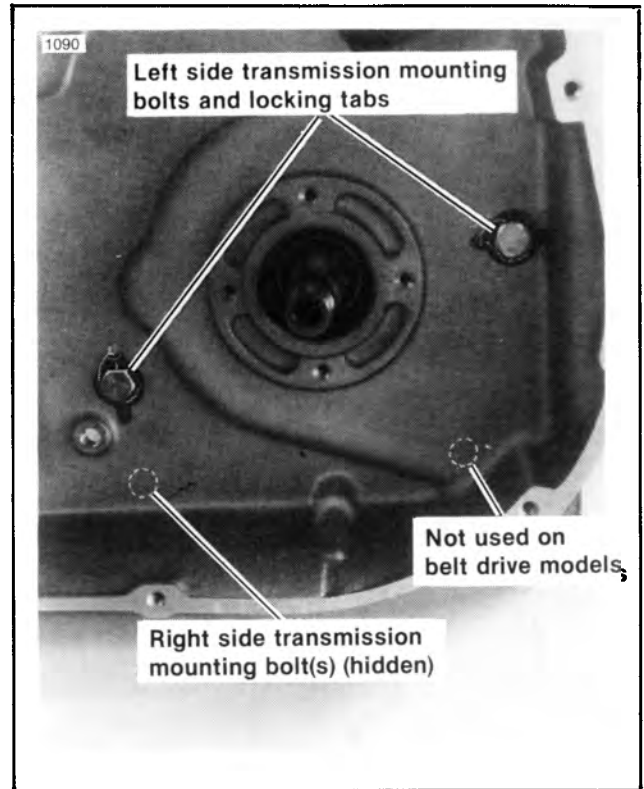

Figure 7-25. Transmission to Primary Mounting Bolts
15. See Figure 7-25. Remove the transmission mounting bolts and two locking tabs as shown.
19. See Figure 7-25. Install the transmission mounting bolts and two locking tabs on the primary chaincase. Tighten 3/8 in. bolts to 21-27 ft-lbs torque and 5/16 in. bolts to 13-16 ft-lbs torque. On 1984 vehicles, secure the two locking tabs to the bolts with safety wire.